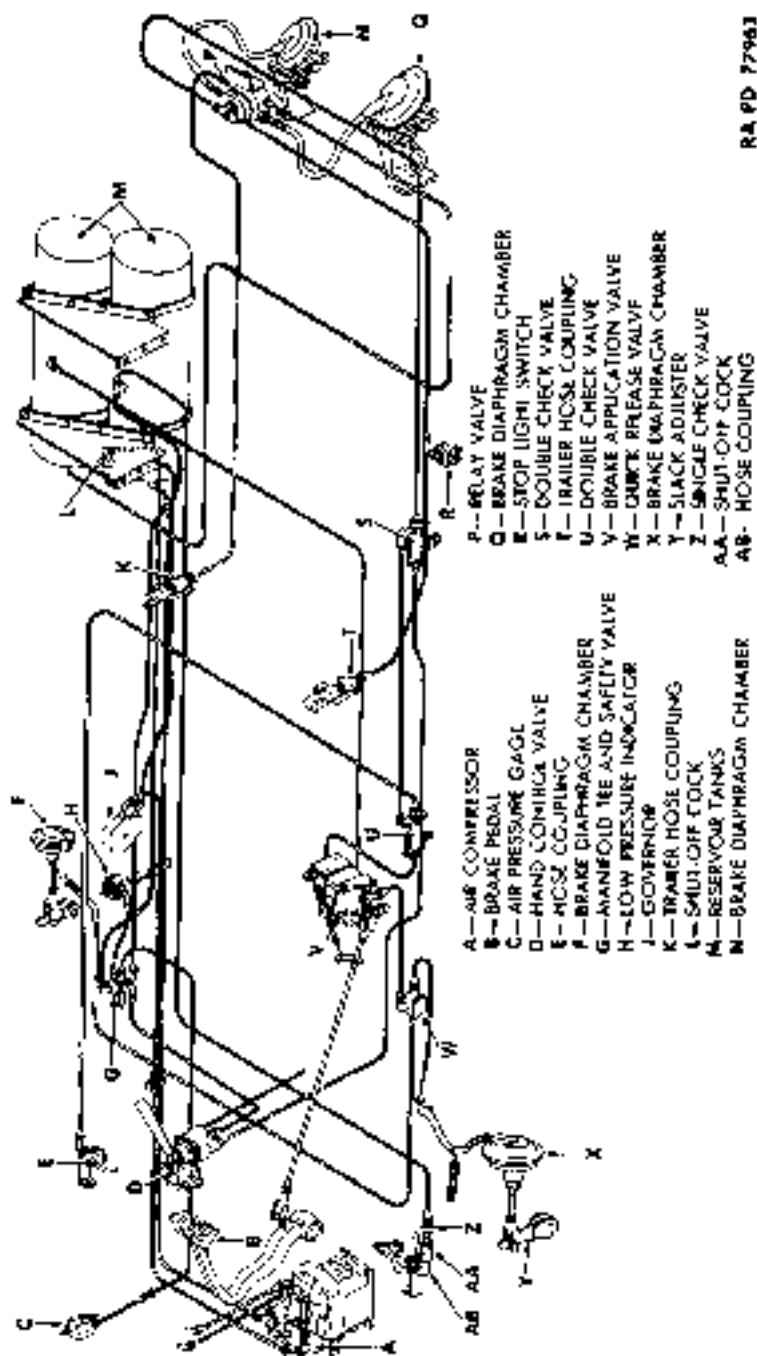

Figure 60 — Service Brake System
**111. DESCRIPTION (fig. 60).**